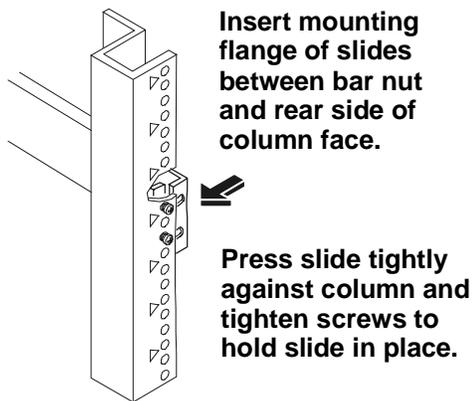

Figure 13-6. Securing the Slide to the Front Column
4. Insert the slide fixed mounting flange between the column and bar nuts. Press the slide firmly against the front column (see Figure 13-6).